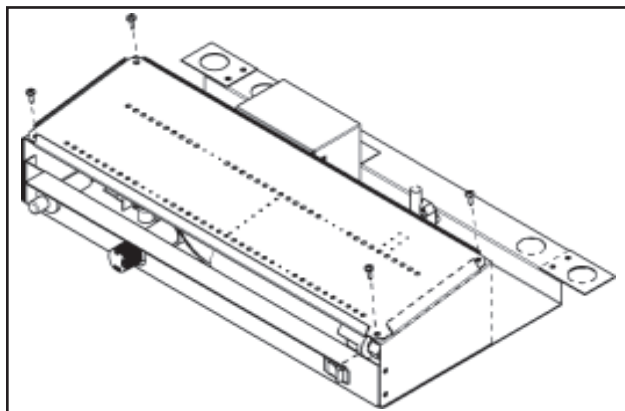

Figure 6 - Remove Burner Pan from the Base Plate (Dynasty Log Set only)
- b. Remove four screws securing the burner pan to the base plate. See Figure 6.